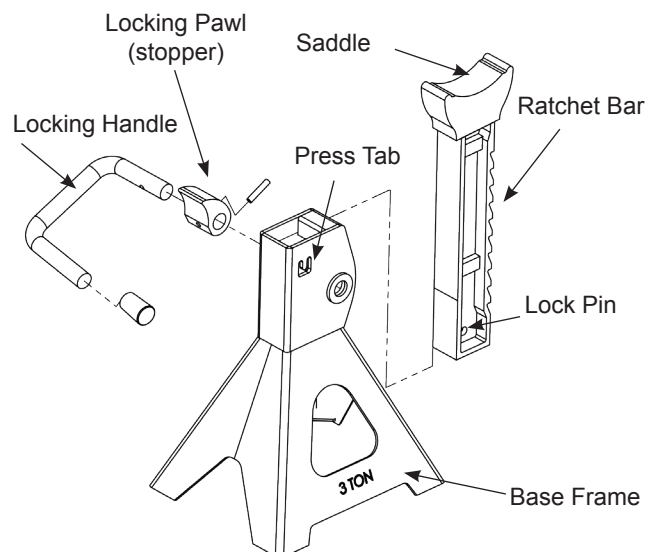

Figure 2 - Jack Stands Components
3. Ratchet/ collar lock is accomplished by simply pressing the press tab (see Fig. 2) inward using a suitable hammer and punch. This will effectively prevent inadvertent loss of the ratchet bar.